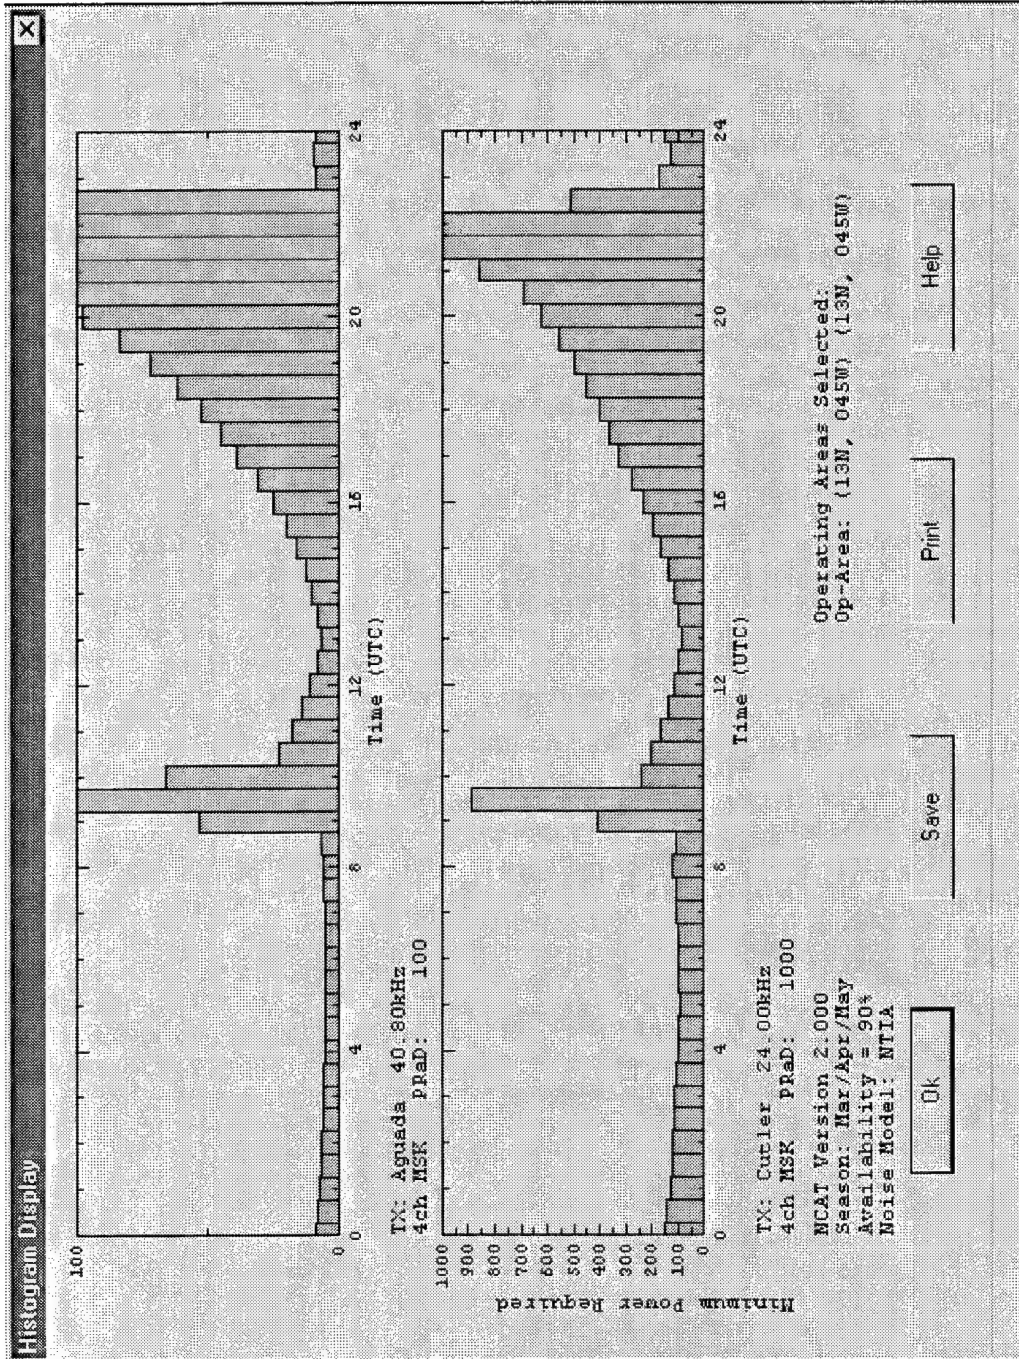

Figure 18. Example of a power level Histogram.
- A determination of the minimum power, in kW, required to be output by each of the transmitter(s) to fully cover the combined selected receiver area(s). To perform a Minimum Power analysis, select Run Scenario -> Show Power Levels.... Figure 18 is an example of the resulting hard copy.